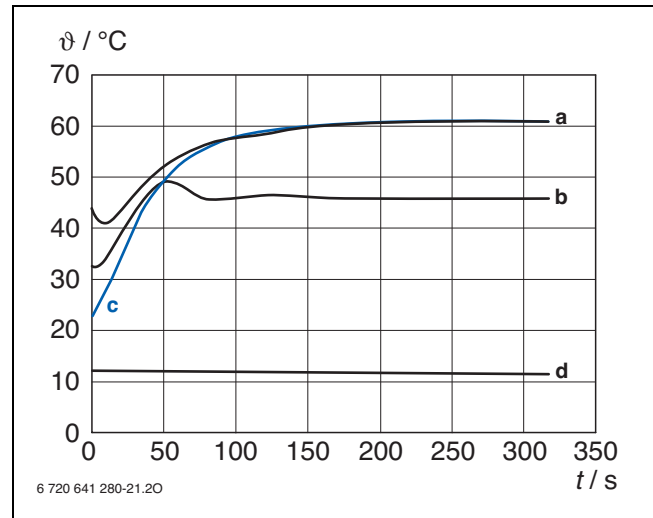

Fig. 56 DHW outlet temperature and DHW temperature maintaining level subject to the setting at the BC25 controller
- Temperature maintaining function with adjustable DHW outlet temperature between 40 °C and 60 °C (→ Fig. 56) in summer mode